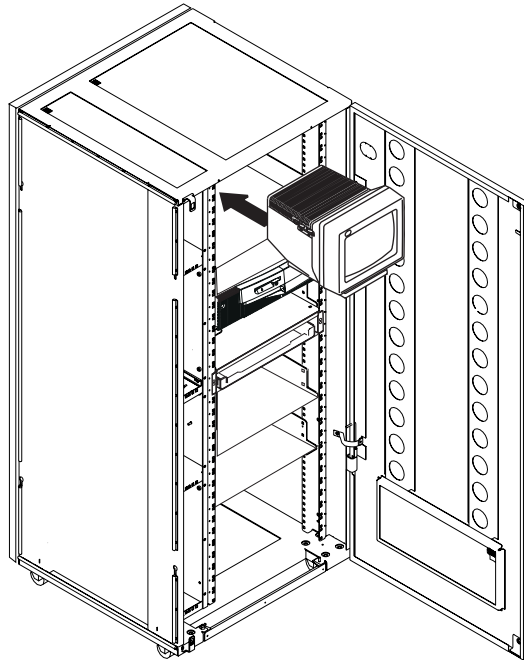

Figure 1-8. Installing the Display in the Controller Expansion (Front Side)
14. Slide the display panel on the top of the controller expansion (refer to Figure 1-8).